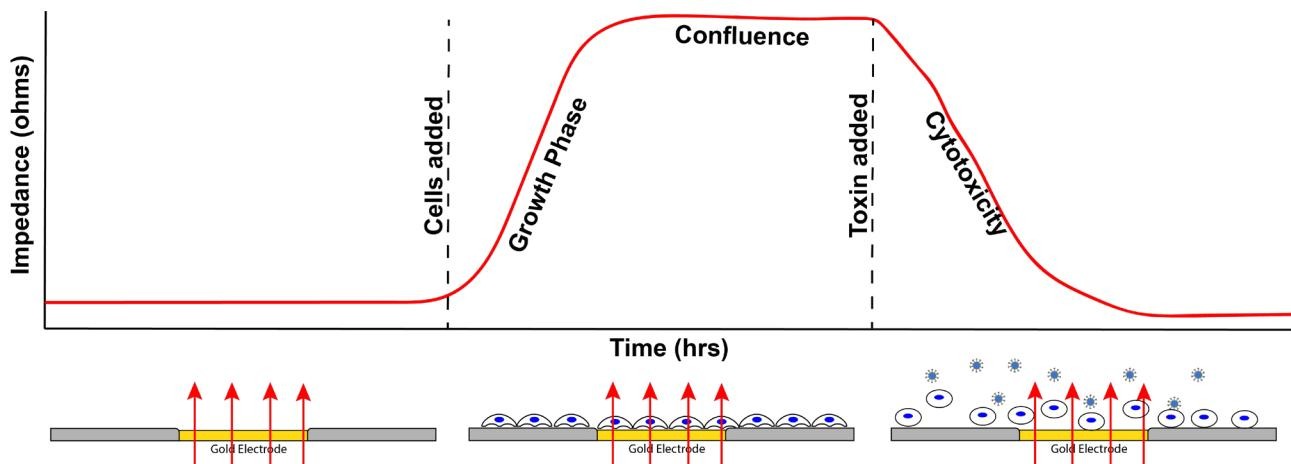

Figure 1: Graphical representation of impedance over time caused by cells covering the gold electrodes of an ECIS array.
Electric Cell-Substrate Impedance Sensing (ECIS) is a method to monitor cell behaviors in vitro using a small alternating current (I) that is applied across an electrode pattern at the bottom of ECIS arrays, resulting in a potential (V) across the electrodes which is measured by the ECIS instrument. The impedance (Z) caused by the cell layer covering the electrodes due to the insulating membranes of the cells can be determined by using Ohm's law $Z = V/I$. As cells grow over the electrodes, the current is impeded in a manner related to the number of cells covering the electrode and is presented in graphical format of Impedance vs Time (figure 1).